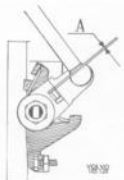

Fig. 2-128. Setting the control
16. Check that the cable (Fig. 2-128) is well-stretched and if necessary adjust with the cable sleeve adjustment (6).